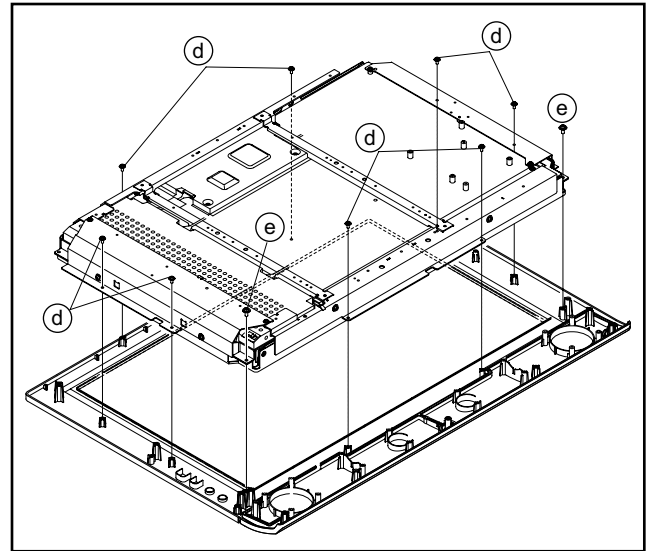
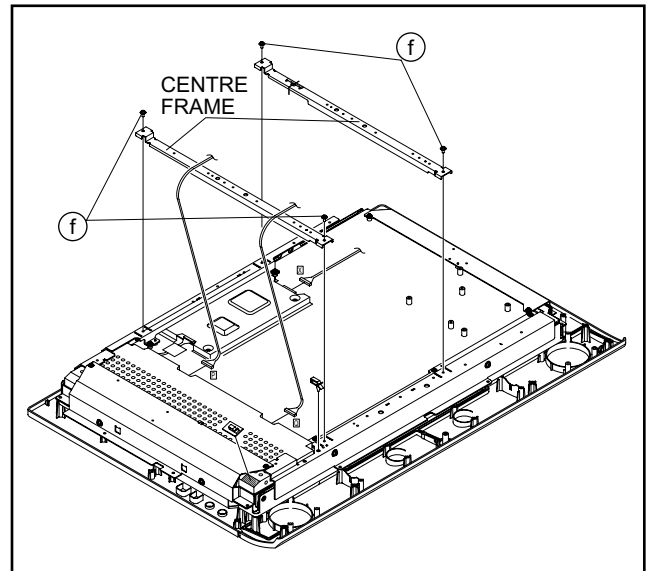
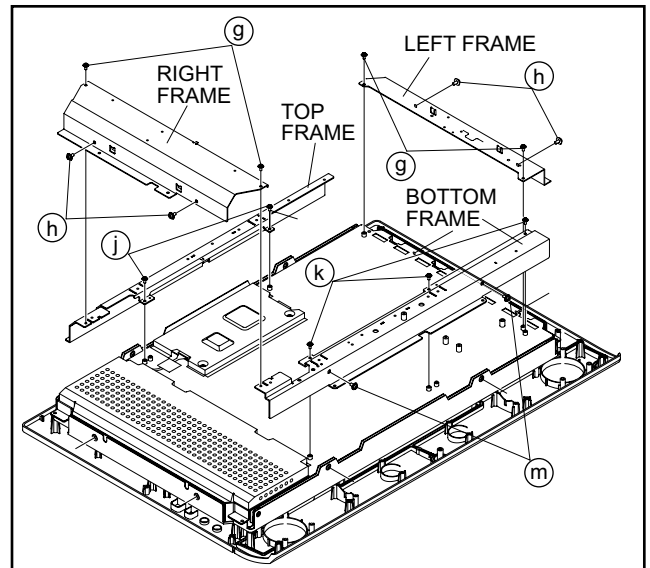

Fig.3-1-10A
Fig.3-1-10B
Fig.3-1-10C
3.1.10 REMOVING THE LCD PANEL (Fig.3-1-10A, Fig.3-1-10B, Fig.3-1-10C)